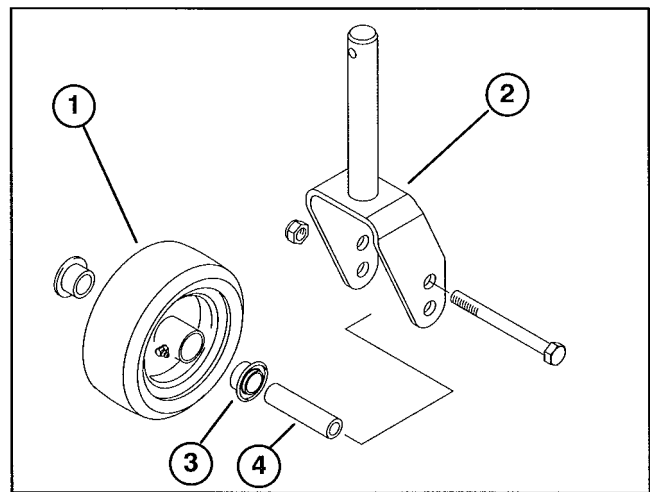
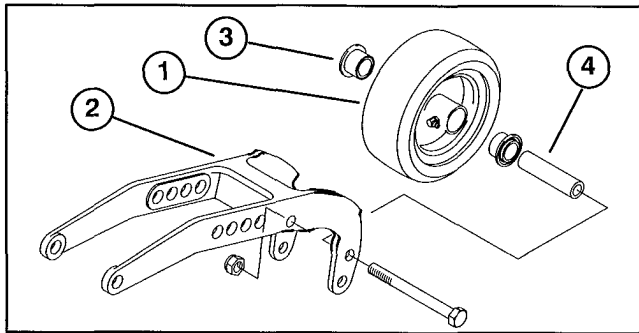

Figure 73
Figure 75
SERVICING CASTOR WHEELS AND BEARINGS (Fig. 73–76)
1. Remove locknut from capscrew holding castor wheel assembly between front castor fork (Fig. 73 or 74) or rear castor pivot arm (Fig. 75 or 76) Grasp castor wheel and slide capscrew out of fork or pivot arm.